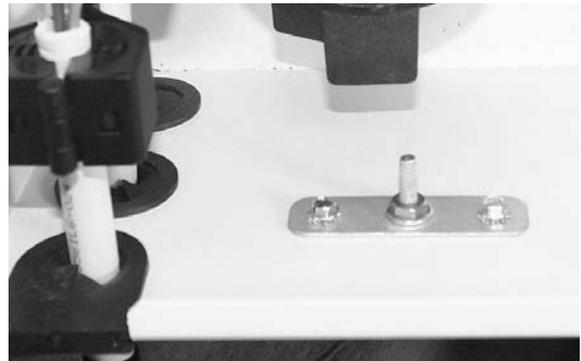

Figure 14
Step 9: Attach the grounding strap from the cable to the ground lug at the base of the telco compartment (Figure 14).